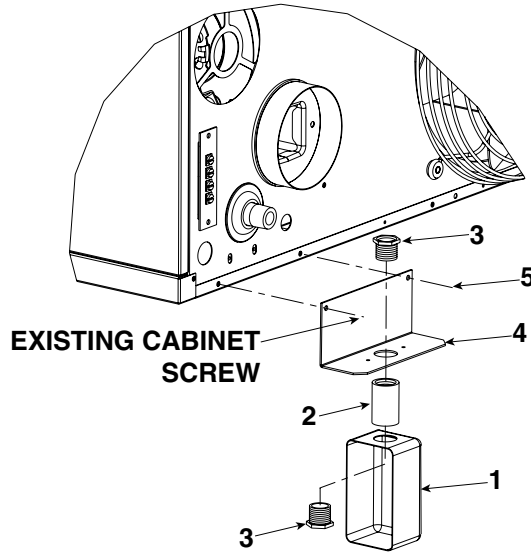

Figure 20. Thermostat Bracket Kit (Refer to Table 33)
- The thermostat bracket kit (see Figure 20) is the same as option CM3. Refer to Table 33 for thermostat bracket kit components.
- The left side of the bracket (item 4) is secured to the heater using an existing cabinet screw. The right side is secured using the screw (item 5) from the kit.